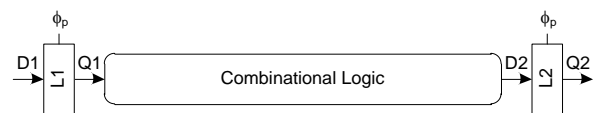

Fig. 6
- A sequential circuit using pulse latch is shown in Fig. 6. Assume the period of $\text{clk} = 20\text{ns}$, max data-to-q delay $t_{pdq} = 6\text{ns}$, min data-to-q delay $t_{cdq} = 4\text{ns}$, max clk-to-q delay $t_{pcq} = 5\text{ns}$, min clock-to-q delay $t_{ccq} = 3\text{ns}$, setup time = 2.4ns , hold time = 4.2ns , the clock skew = 0.5ns . (5%)